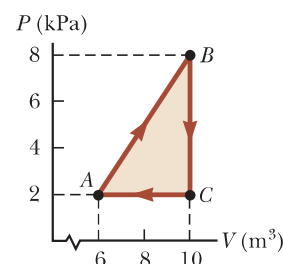

Figure P20.30
30. A gas is taken through the cyclic process described in Figure P20.30. (a) Find the net energy transferred to the system by heat during one complete cycle. (b) **What If?** If the cycle is reversed—that is, the process follows the path  $ACBA$ —what is the net energy input per cycle by heat?
31. Consider the cyclic process depicted in Figure P20.30. If  $Q$  is negative for the process  $BC$  and  $\Delta E_{\text{int}}$  is negative for the process  $CA$ , what are the signs of  $Q$ ,  $W$ , and  $\Delta E_{\text{int}}$  that are associated with each of the three processes?